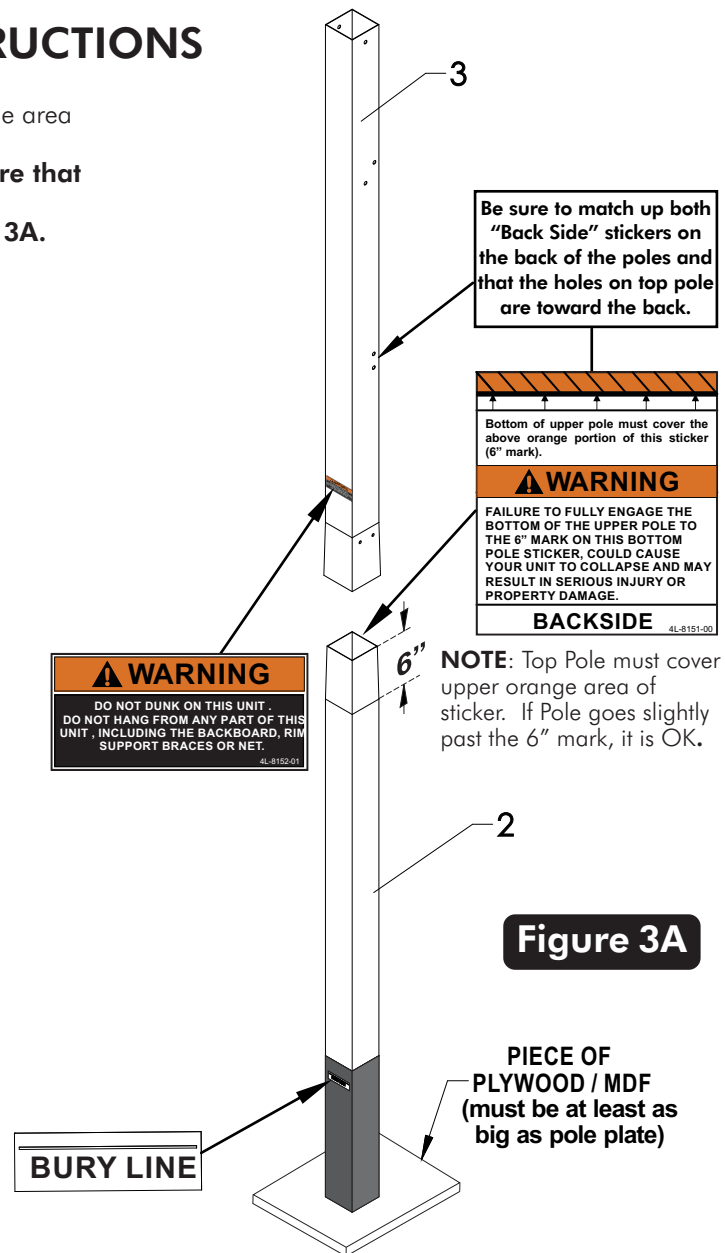

Figure 3A
1. Before putting any of the poles tubes together, make sure that the orange area of the Warning Sticker on Pole (#2) is 6 inches from the top end. **Be sure that the "Back Side" stickers are at the back of the pole.** See Figure 3A.
2. Align the upper pole (#3) with the bottom pole (#2) as shown in Figure 3A and slide them together. While maintaining control of the pole assembly stand poles up **STRAIGHT** on a piece of MDF board or Plywood, **lift poles up by bottom pole** below the 6" mark shown on sticker and slam down the bottom pole as many times as needed on the MDF board or Plywood **until the bottom of the upper pole reaches the 6" mark** (on Sticker) on the bottom pole. Lift the pole 10-12 inches off the ground when slamming the poles together. See Figure 3A & 3B.